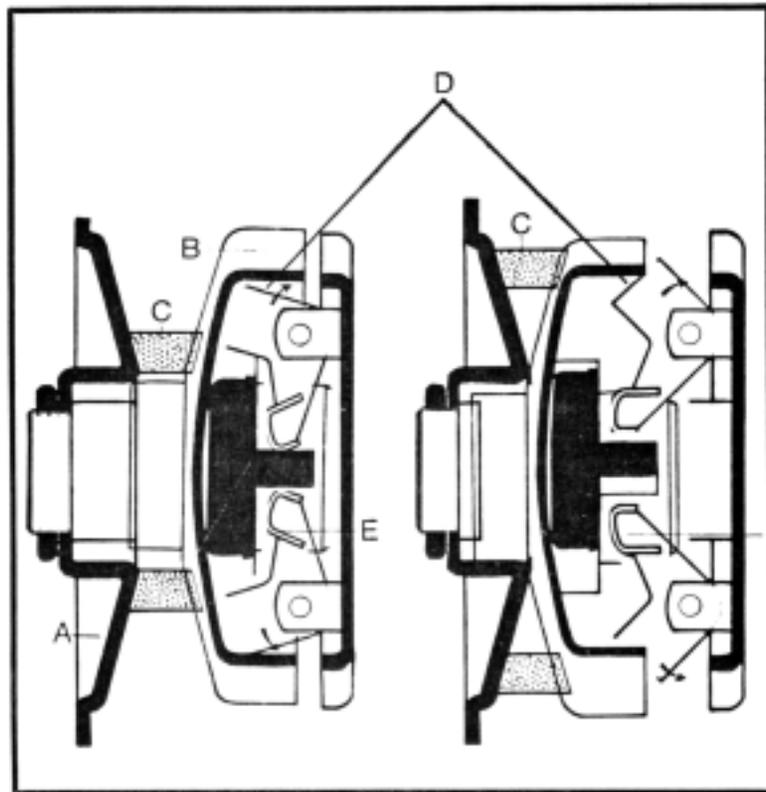

Fig. 7-12. Peugeot speed-sensitive pulley. A-fixed pulley flange; B-movable flange; C-drive belt; D-flyweights
Figure 7-12 illustrates an example from Peugeot. The inboard pulley flange (A) is fixed; the outboard flange (B) moves in and out. At low engine speeds, belt C rides low in the pulley groove, giving a low ratio for starting. As engine rpm increases, centrifugal force pivots the flyweights D out radially, camming the outboard flange inward. The belt is spring-loaded, and thus can respond by climbing higher in the groove. As it does, the ratio is raised for less torque